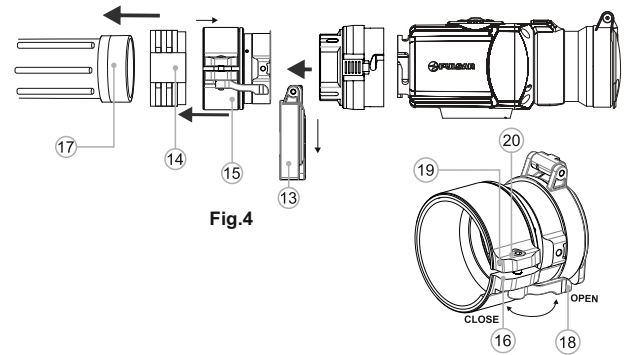

Fig.4
- Remove the cover (13) from the Cover by turning it counterclockwise.
- Install the insert (14) into the adapter (15) all the way in (Fig.4)
- Install firmly the adapter with the insert onto the objective lens (17) of an day device (Fig.4).
- Snap the lever (18) from the original OPEN position to the CLOSE position (Fig.4). Check that the adapter firmly fits the objective lens. If you see there is a clearance, please:
- Loosen the locking screw (19) with the hex-nut wrench (S=2mm).
- Tighten the screw (20) with hex-nut wrench (S=4mm) with a clamping force necessary to ensure that the adapter fits tightly the objective lens.
- Tighten the locking screw (19).